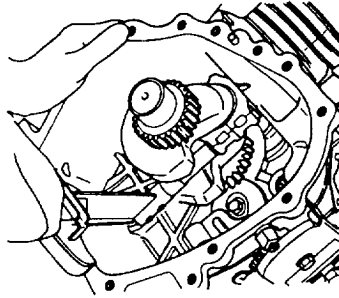

Figure 6-18 Installing the connecting rod big-end cap
- 7) Install the big end cap (see Figure 6-18).